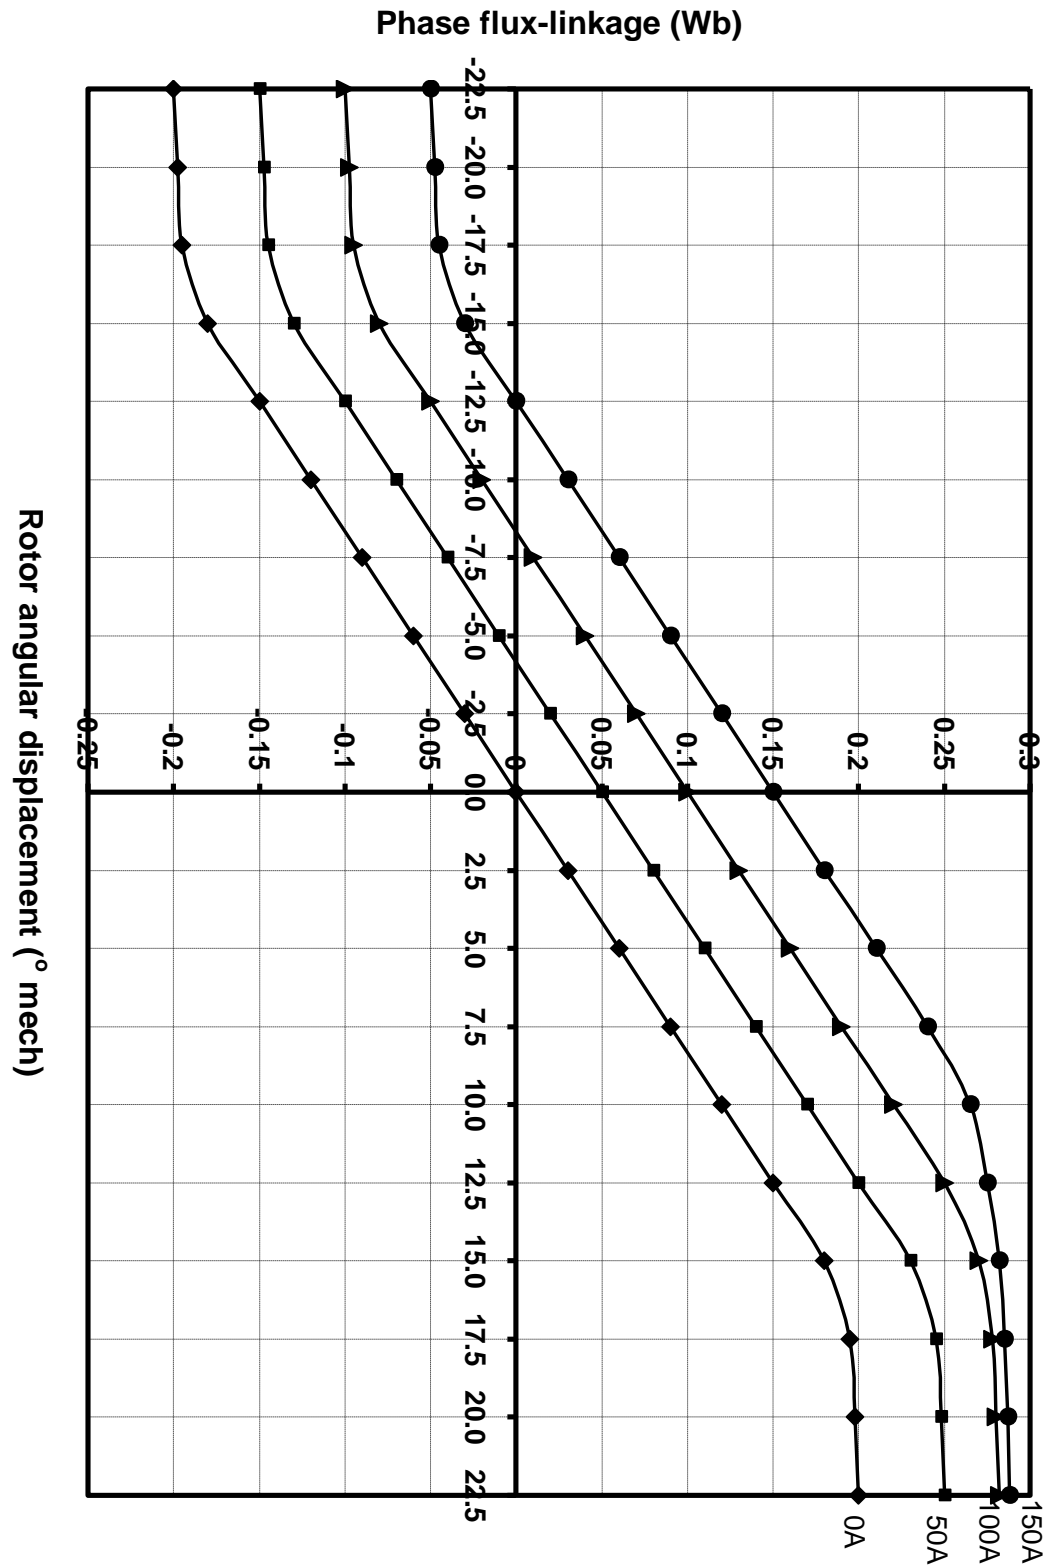

Figure 4 Measured variation of flux-linkage with rotor angular displacement of one phase of a non-salient, three-phase permanent magnet brushless machine
4. Figure 4 shows the measured variation of flux-linkage with rotor angular displacement of one phase of a non-salient, three-phase permanent magnet brushless machine for various levels of DC current between 0A and 150A (in each case the DC current was present over the full excursion of angular displacement). This machine has 12 stator teeth and 8 rotor poles. The machine is normally operated in brushless DC mode.
- a. Calculate the magnitude of the 'flat top' region of the nominally trapezoidal open-circuit induced emf in one phase of the machine at 6000rpm. (3)
- b. The machine is operated in brushless DC mode with 120° (electrical angle) six-step square wave currents. By plotting appropriate  $\Psi$ -i curves on the graph paper provided, estimate the average torque produced by the entire machine for phase currents having flat-top values of 50A and 150A, noting any interesting behaviour in terms of their relative magnitudes. (8)
- c. Calculate the absolute phase inductance of the machine at rotor angular displacements of 0° and 22.5° and currents of 50A and 150A (i.e. four values of absolute inductance in total) and comment on any differences between the calculated inductances (3)